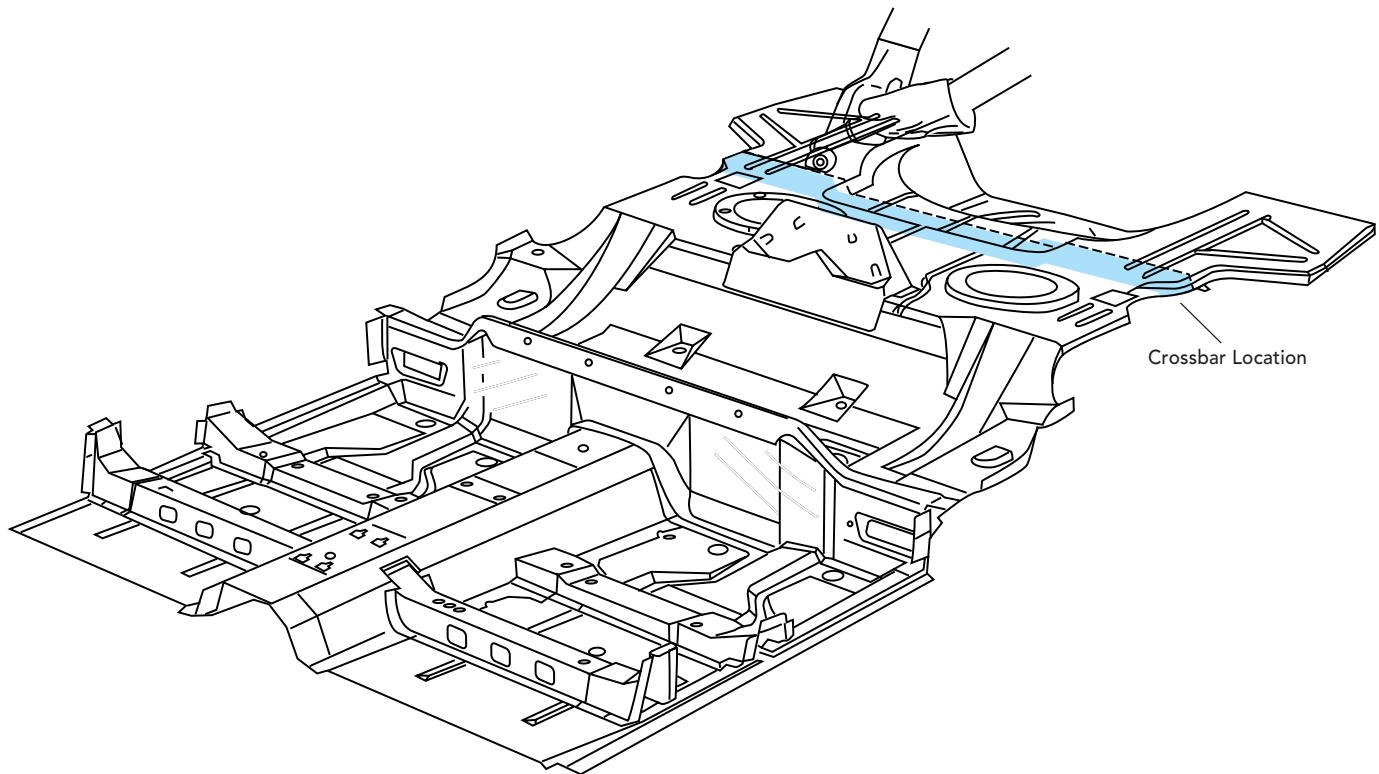

Fig. 4.38 — Cut Damaged Floor
- 4 Cut the rear floor along the rearward edge of the crossbar. Be careful not to cut the crossbar or the rear rails (Fig. 4.38).